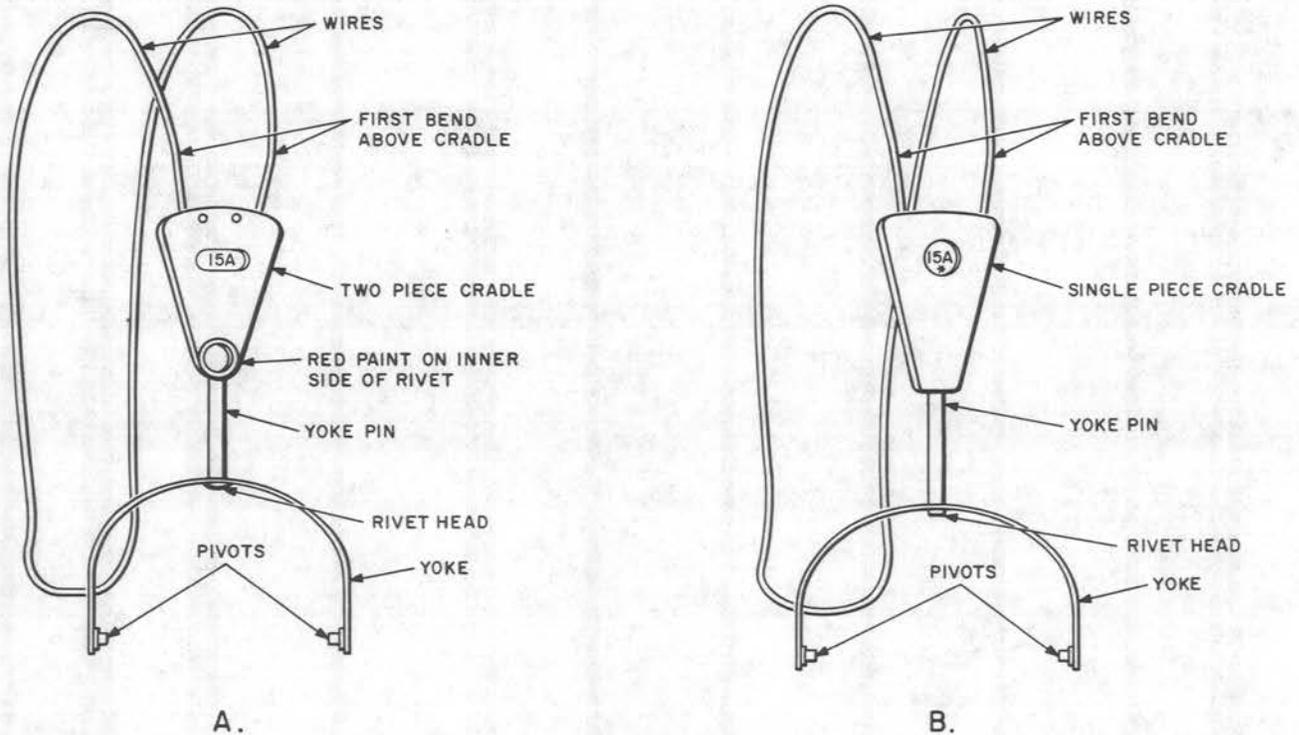

Fig. 12—Headband
**6.04** When a headband is new, the joint between the yoke and the yoke pin may be tight. With use, this joint may become loose allowing some play between the yoke and the yoke pin. Eventually the yoke pin may break away from the yoke, particularly if the yoke pin is riveted by the earlier method as shown in Fig. 12 where
shown in Fig. 12. Replace any headband on which nicks are deep enough to snag the fingernail as it is run along the wire.